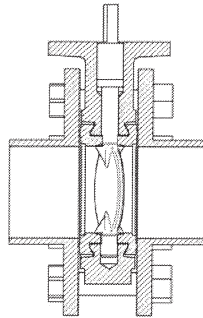

FIGURE 2. VALVE IN PARTIALLY OPEN POSITION
Step 4. To prevent damage to the disc sealing edge during installation, position the disc in the “partially open” position (Figure 2) so that the disc is still contained within the valve body.